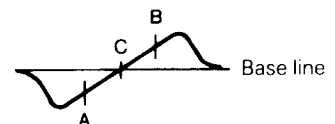

Fig. 9
2. Use the T202 core to form the S-curve shown in Fig. 9. Adjust the symmetry of A and B about point C for linearity.